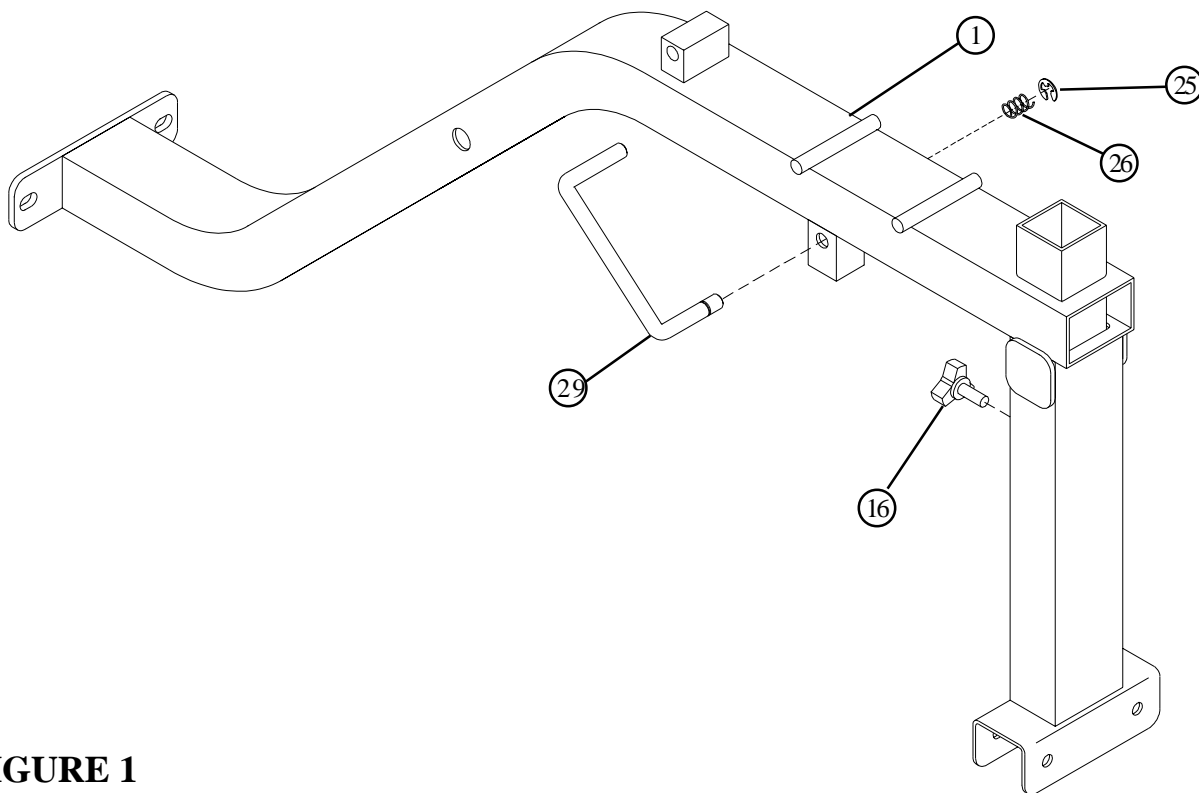

FIGURE 1
- Assemble the 1/2" DIA. U-PIN (29) to the BENCH FRAME (1) using one 1/2 X 1" SPRING (26), and one 1/2" E-RING (25) as shown in FIGURE 1.
- Thread one THUMBSCREW (16) into the BENCH FRAME (1) as shown in FIGURE 1. The THUMBSCREW (16) will be used to tighten down attachments.